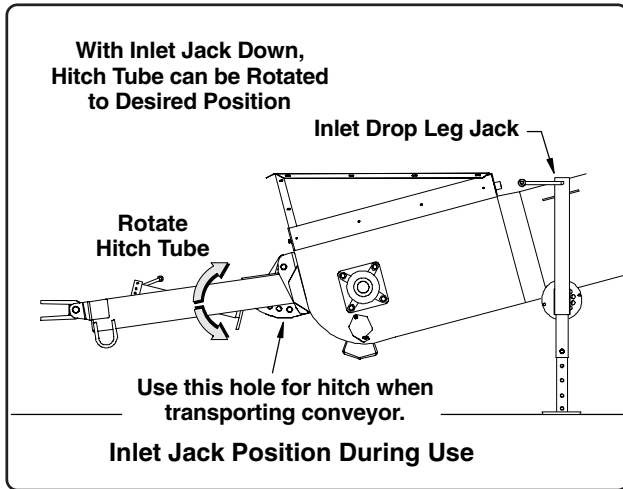

Fig. 2
When transporting the conveyor, the hitch tube should be secured using the hole in its mounting plates that is closest to the inlet hopper (See Fig. 2 on Page 12). Using this hole will allow the conveyor, when in its full down position, to be at its lowest height possible for transport.
2. Use the drop leg jack to raise inlet just far enough to relieve pressure on the hitch locating bolt. Raise inlet until locating bolt can be reinserted into the front hole used for transporting the conveyor (See Fig. 2 on Page 12).